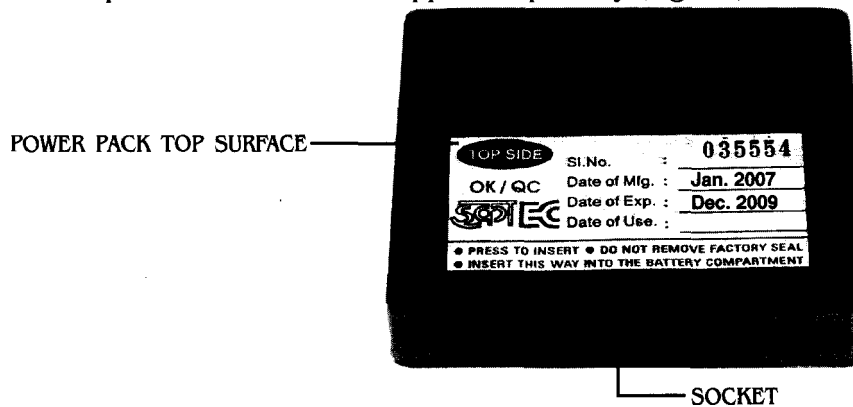

Fig.2A Power Pack of EVM (To be installed in Control Unit)
8.2. Power pack for EVM will be supplied separately (Fig. 2A).